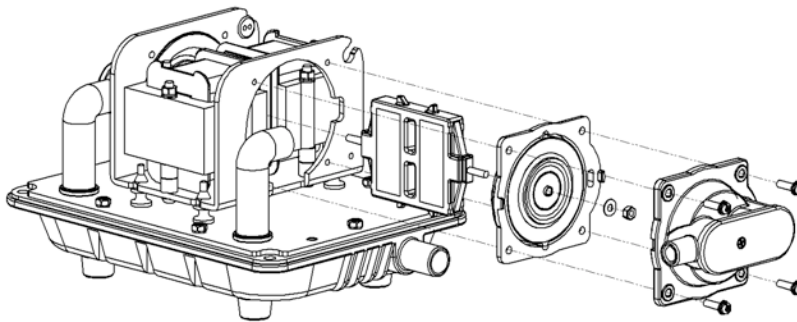

Figure 3
- Remove the four screws from the diaphragm housing. (As shown in figure 3)